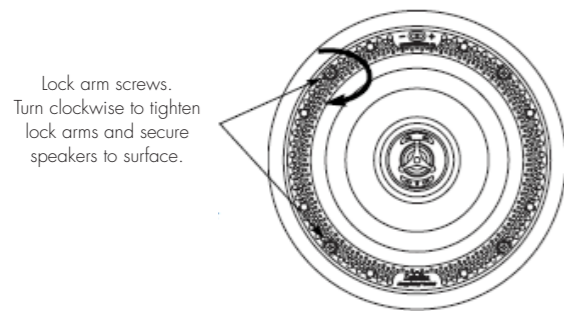
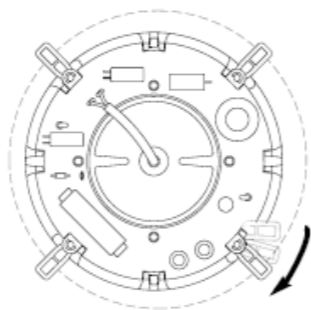

Figure 15
Figure 16
- Place the speaker carefully into the cutout. If you have a level, use it to help you correctly align rectangular speaker models. Tighten the lock arm screws with a screwdriver [Figure 15]. This will rotate the lock arms [Figure 16] and secure the speaker to the wall/ceiling.